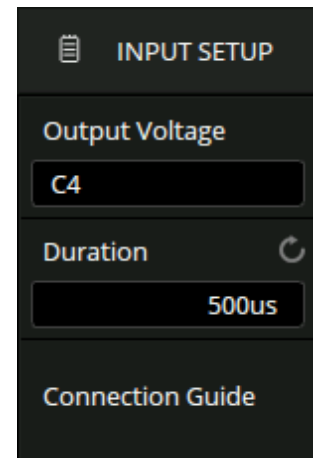

Figure 19.17 Input Setup Menu
1. Touch **Input Setup** to display the signal menu shown in figure 19.17.